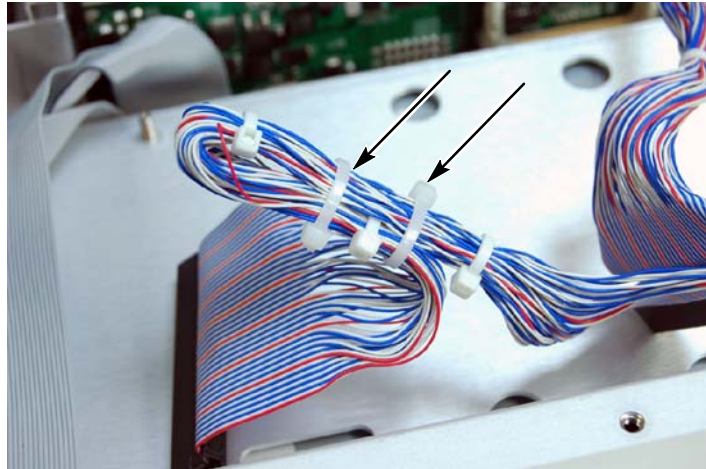

Figure 28: IDE cable secured with cable ties
7. Wrap the black end connector back against the IDE cable and secure with two cable ties. See Figure 28.